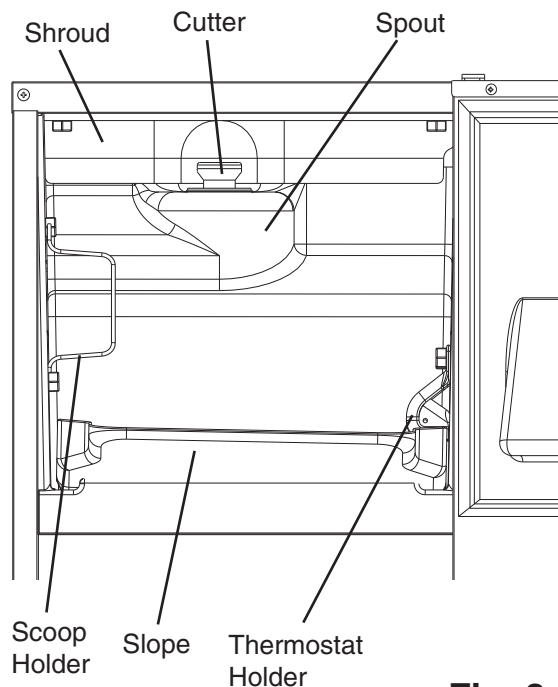

Fig. 8
- 4) Remove the slope by bending its center carefully and releasing it from the 2 slope shafts. See Fig. 8.